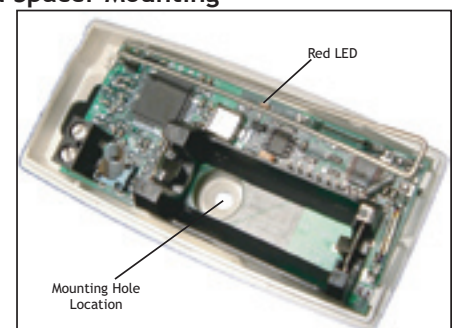

Figure 5: Base Housing Mounting
3. Place one supplied screw into the mounting hole location as shown in Figure 5 or use double-sided tape and secure the housing to the surface.